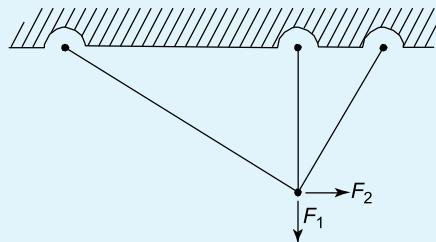

Figure 6.42
- The truss of Figure 6.42 is a: